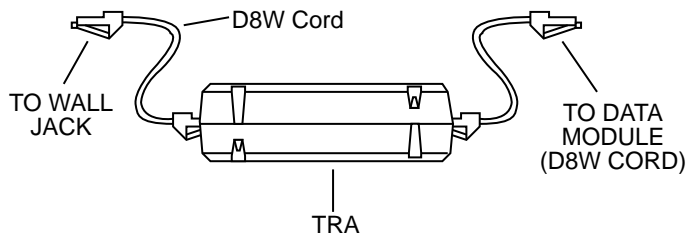

FIGURE 8-22. Connecting the Modules with the Digital Lines, Using D8W Cords
- If you are using individual D8W telephone line cords to connect the modules with the digital lines, plug one end of the TRA into the wall jack using the short permanently attached cord. Plug the D8W cord from the other end of the TRA into the jack marked **LINE** on the appropriate data module. See Figure 8-22.